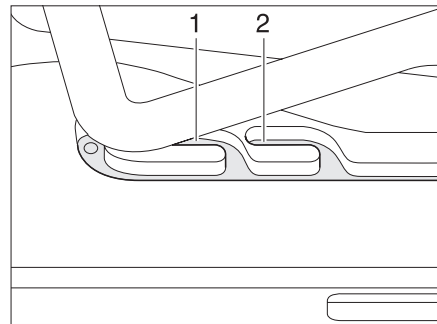
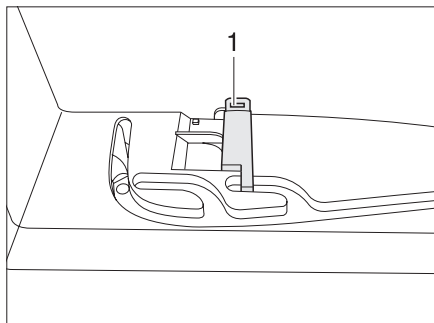

Fig. 57 Heki skylight in ventilation position
Fig. 58 Ventilation position locking mechanism
The Heki skylight can be put in two ventilation positions: Bad weather position (Fig. 57,1) and central position (Fig. 57,2). Depending on the model, the skylight can be locked in the central position with the latch (Fig. 58,1).
- Push the bar slightly upwards and into the selected guide (Fig. 57,1 or 2) and lock if necessary.